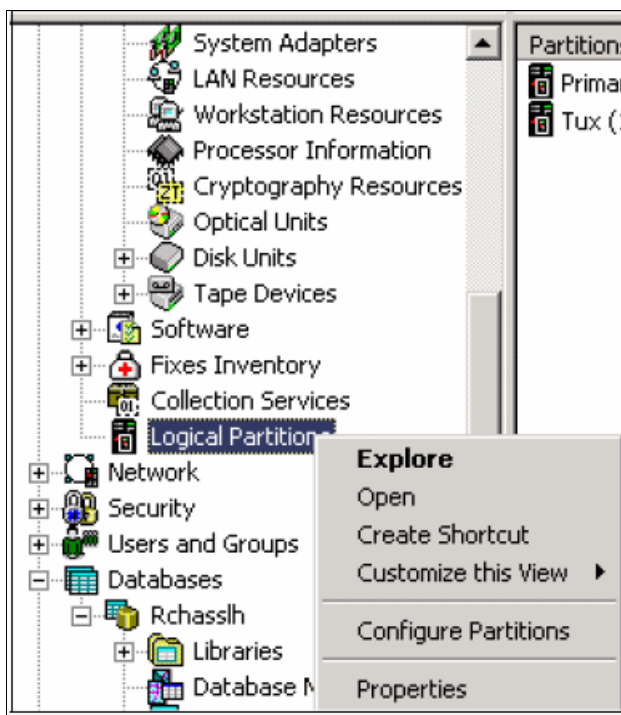

Figure C-3 System i Navigator Panel - Logical Partition
- c. Select **Logical Partitions**, then right-click and select **Configure Partition** as shown in Figure C-3.